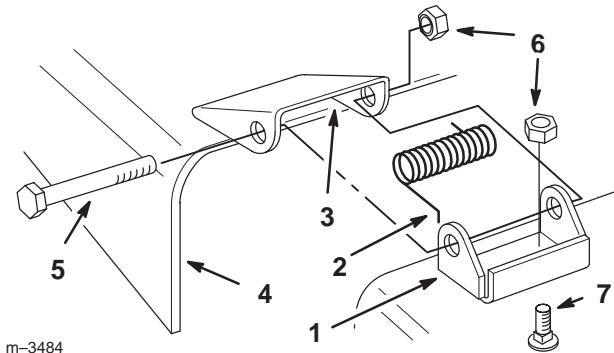

Figure 34
1. Install the mounting brackets onto the mower with carriage bolts (5/16 x 3/4 in.) and locknuts (5/16 in.) (Fig. 34).
2. Place the springs into the brackets on the mower with the hooked ends over the raised back (Fig. 34).
3. Align the discharge chute with the holes in the brackets and the spring straight ends in the space under the hinge and above the chute (Fig. 34).
4. Secure the chute to the bracket with bolts through the discharge chute, springs, and brackets. Secure with locknuts (Fig. 34).